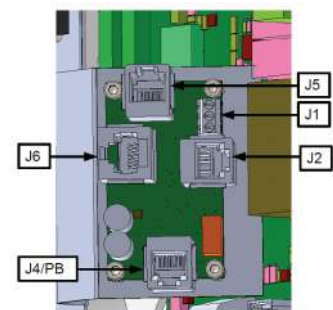

Figure 130
- From J1 connector (If 3-wire connection is used) as shown in Figure 130 .